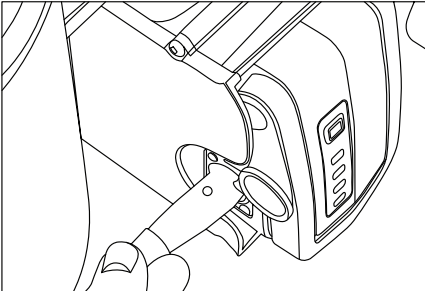

Fig. 6
1. Plug the charger's power cord into the battery (**Fig. 6**).